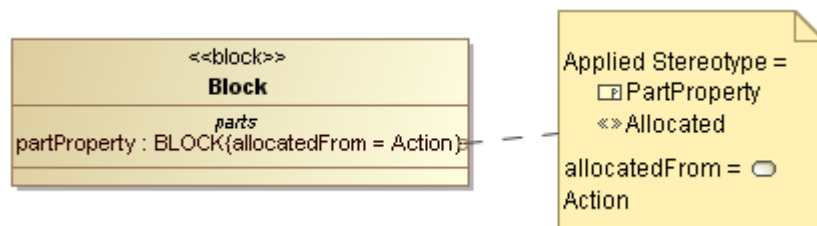

Figure 193 -- A partProperty Allocated from an Action
- The value of the **allocatedFrom** tag, under the **Allocated** stereotype, of the **partProperty** is **Action** (Figure 193).